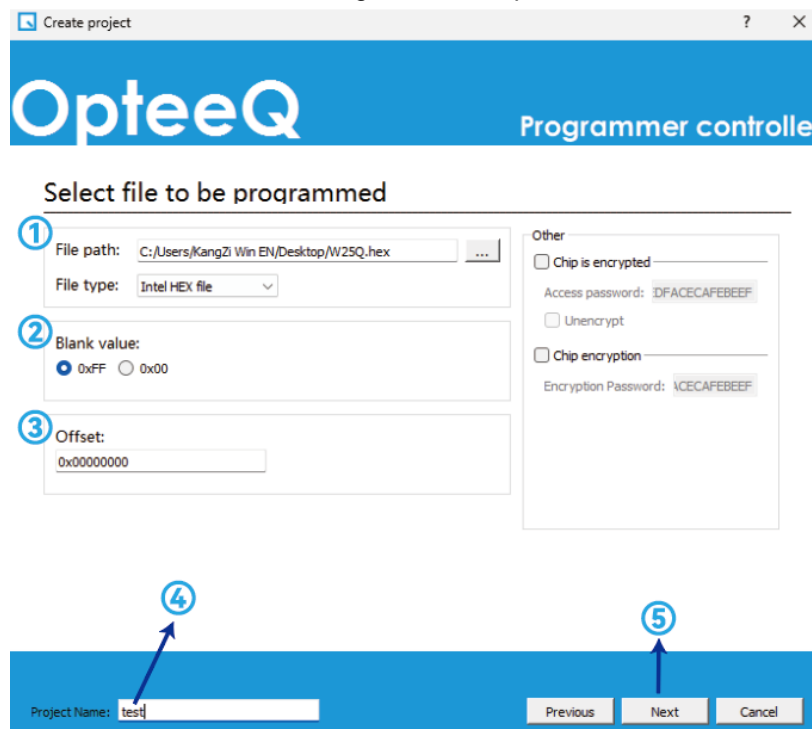

Figure 4.13 Step 3 - Project Creation Interface
3) Step 3: Select the programming file (as shown in Figure 4.13).
It is needed to select the code file to be programmed into the target chip (as shown in Figure 4.13-①).
Then, please set the baseline value for programming (as shown in Figure 4.13-②).
Set the offset value (as shown in Figure 4.13-③).
It is needed to input the project name (as shown in Figure 4.13-④) after settings above.
Finally, click "Next" (as shown in Figure 4.13-⑤).
Notes: The baseline value (Figure 4.13-②) and offset (Figure 4.13-③) value may be default values, or may be changed according to the user's needs.